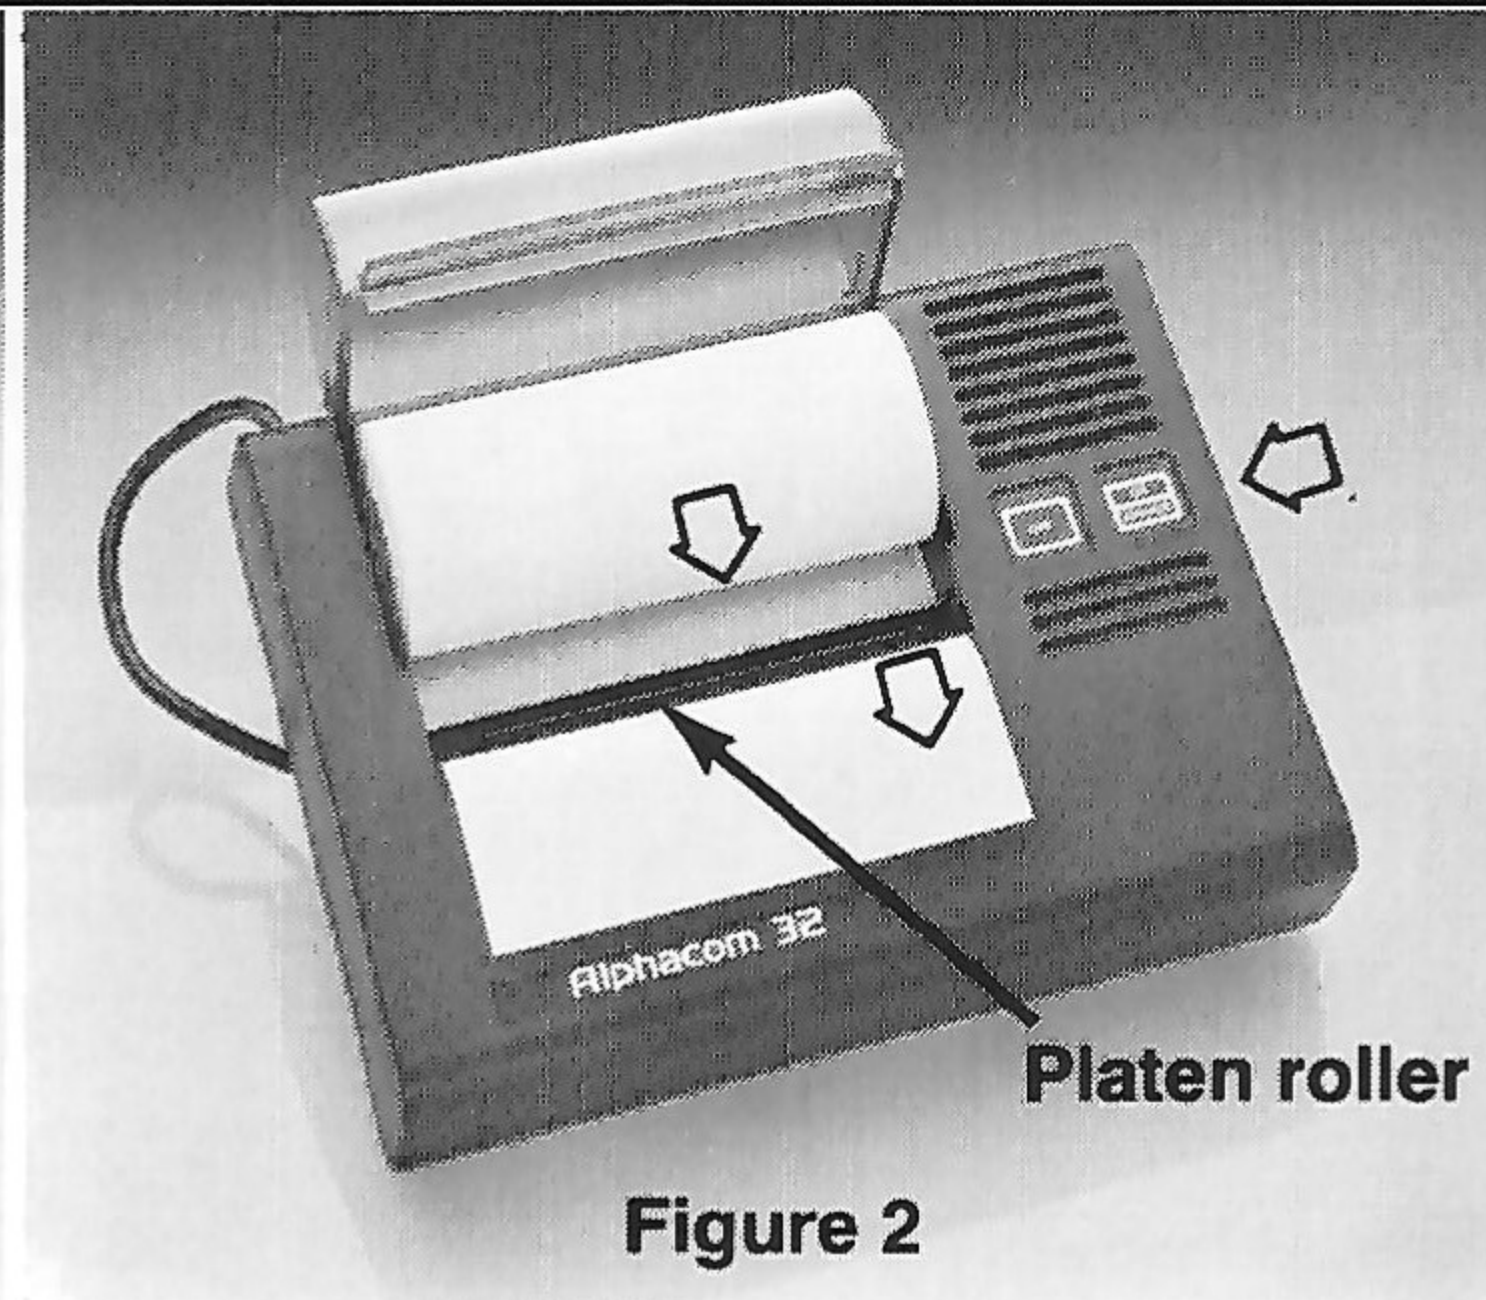

Figure 2
**LOADING ROLL PAPER INTO THE PRINTER** Paper loading may be easily accomplished by following the steps shown in Figures 2, 3 and 4.
**STEP 2:** Place the paper roll in the printer paper tray with about 6" of paper coming from underneath the roll. Insert the leading edge of the paper below the rubber platen, and press the ON/ADVANCE button. The paper will feed automatically. See Figure 2.